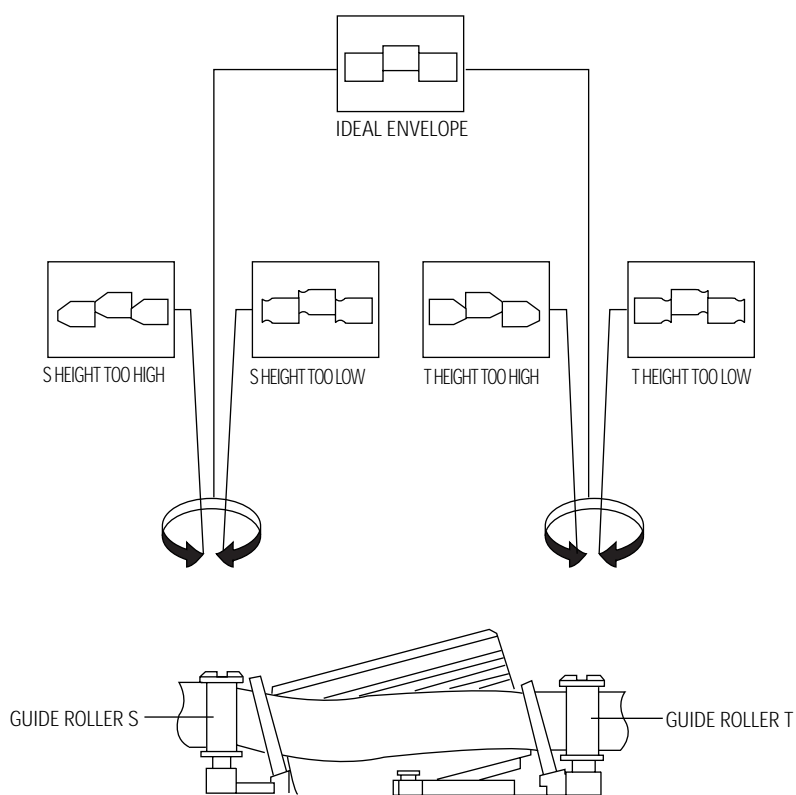

Fig. 3-16 Guide Roller S, T Height Adjustment
- 8) Turn the guide roller heads with a flat head () driver to obtain a flat video RF envelope as shown in Fig. 3-16.